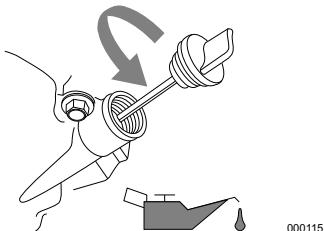

Figure 2-11. Remove Dipstick
3. Remove oil fill cap/dipstick and wipe dipstick clean. See Figure 2-11.